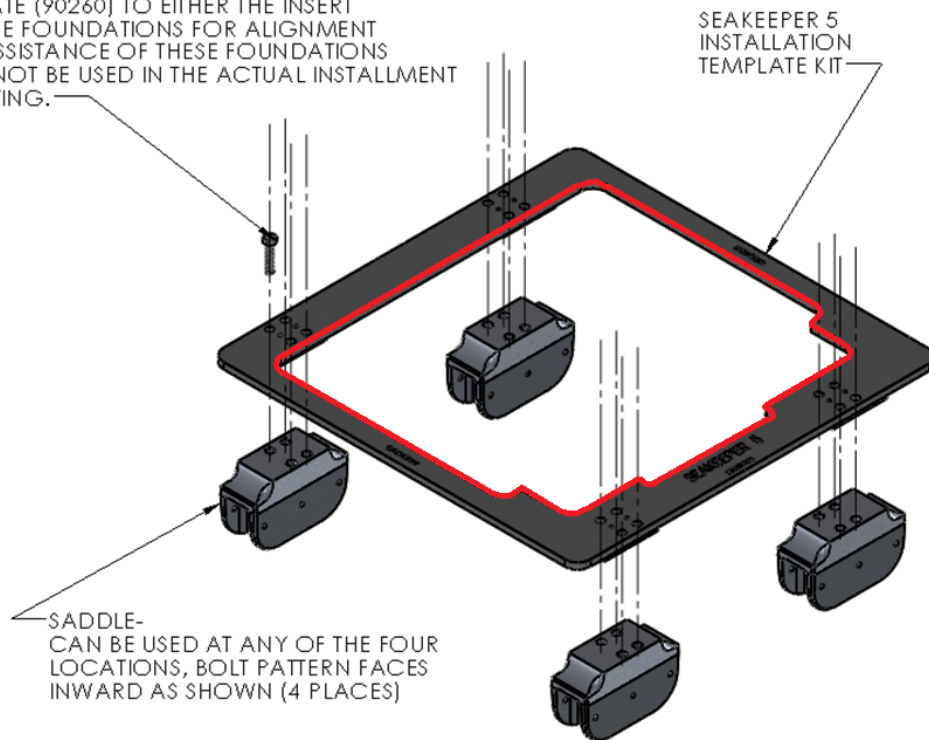

FIGURE 6 – EXPLODED VIEW OF SADDLE INSTALLATION FIXTURE
Seakeeper provides an installation fixture template, P/N 90260 that locates the saddles at the proper spacing both in the fore-aft direction and the port-starboard direction. See Figures 6, 7 & 8 below. Once assembled with the provided saddle fittings, the fixture can be used to check saddle clearances and alignment of the hull structure. The fixture will allow the builder / installer to lay-up and adjust the foundation dimensions to create a low-clearance fit between the gyro foundation saddles and the hull structure. Shear strength of the adhesive will be maximized if the cured thickness between the vessel structure and gyro saddles is at the thinner end of the adhesive manufacturer’s recommended range. Therefore, the fixture should be used to confirm that the overall dimensions of the foundations are square and level and that the adhesive gap is within Seakeeper’s maximum recommended thickness of .13” or 3mm.
- 1) Position installation fixture (Fig 8) on hull girders noting recommended clearances for maintenance from Figure 2. Check that the screws fastening the saddles to the installation fixture are tight (Fig 6).
- 1) Ensure that screws fastening saddles to the installation fixture are tight (Fig 6).